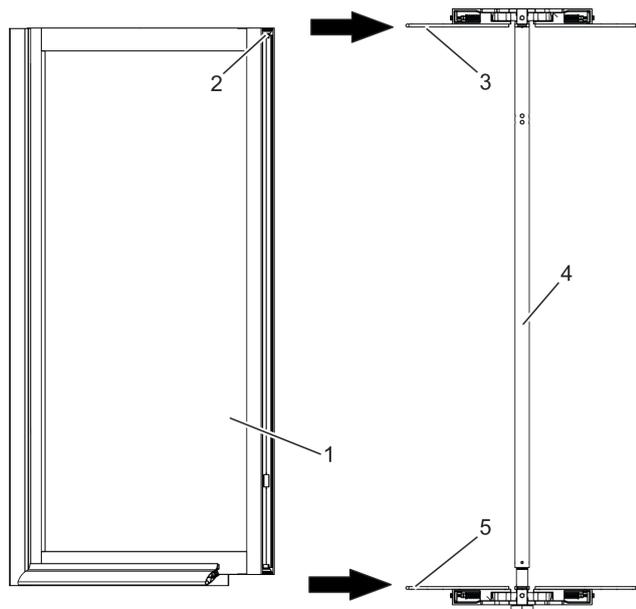

Fig. 107 Pushing on the wing
2. Position the wing (Fig. 107/1) vertically with the back in front of the turnstile (Fig. 107/4) as shown in Fig. 107.
3. Remove the upper brush inserts at the back (Fig. 107/2) and mark them for future allocation (e.g. with left/right).
Carefully slide the wing (Fig. 107/1) with the back onto the upper and lower cross fitting (Fig. 107/3 + 5) in the direction of the arrow.
5. Connect the upper cross fitting (Fig. 107/3) with the wing.
6. Connect the lower cross fitting (Fig. 107/5) with the wing.
19. Push on the remaining wings as with steps 1–16 and connect with cross fittings (Fig. 107/3 + 5).